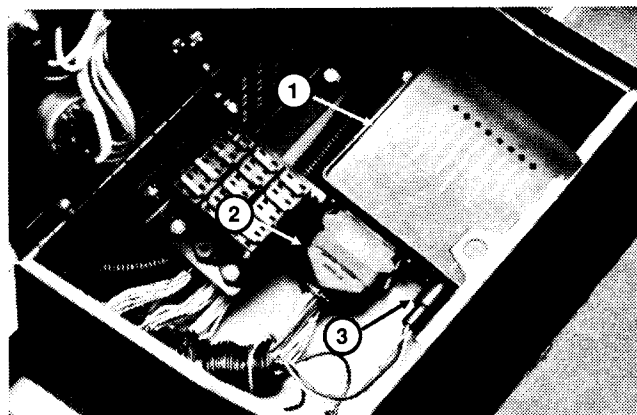

Figure 38
2. Disconnect the POWER and I/O connectors from the controller (Fig. 38).